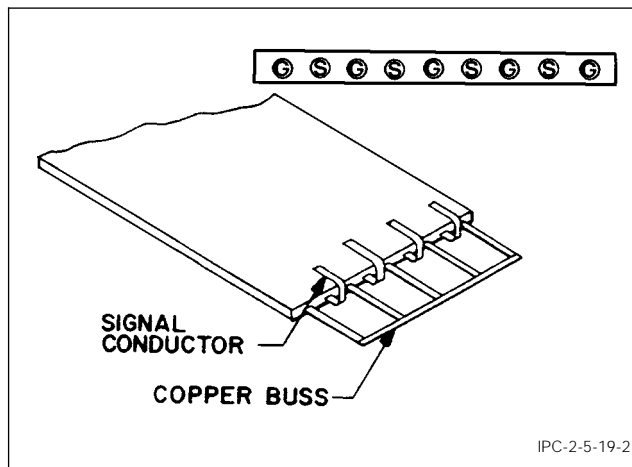
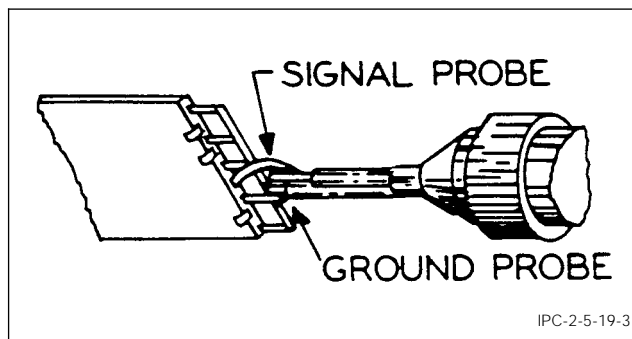

Figure 3 Cable Preparation
Figure 4 Cable Connection
5.2 Prepare the test specimen by stripping approximately 13 mm of insulation from both ends of the cable. Separate the ground and signal conductors and solder a copper buss across the grounds of each end (see Figure 3). Solder a standard cable connection device to each end of the cable (see Figure 4).